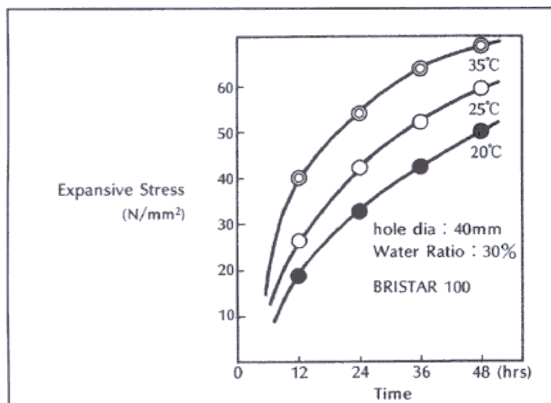
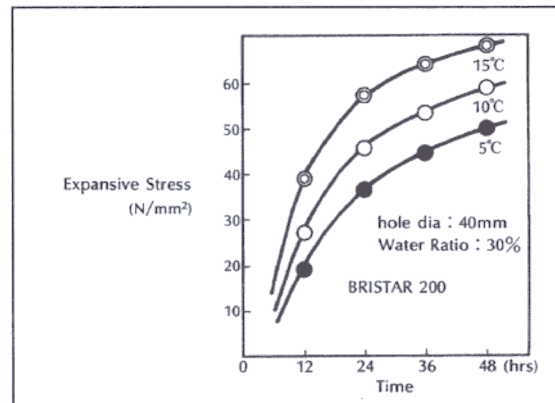

Fig.1: Changes in the expansive stress of BRISTAR100
Fig.2: Changes in the expansive stress of BRISTAR200
1) The expansive stress increases more than 30 N/mm² (Fig.1 & Fig.2). Generally, the compressive fracture stress of rock is 100 to 200 N/mm² and that of concrete is 15 to 50 N/mm². However, the tensile fracture stress is very small, for instance, it ranges from 4 to 7 N/mm² in rock and 1.5 to 3 N/mm² in concrete.